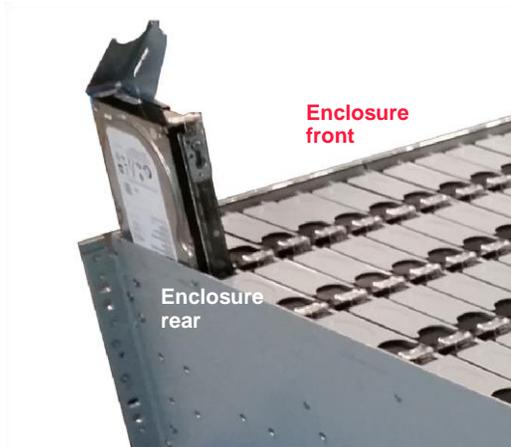

Figure 3.7 Drive removal
- Carefully lift the drive carrier assembly out of the slot as demonstrated in Figure 3.7.
3. Ensure the imprinted arrows on top of the release catch are pointing toward the rear of the enclosure, and then carefully slide the drive carrier assembly into the slot until it contacts the baseboard. The release handle begins to engage. (Refer to Figure 3.7 for an illustration of the correct drive carrier orientation.)